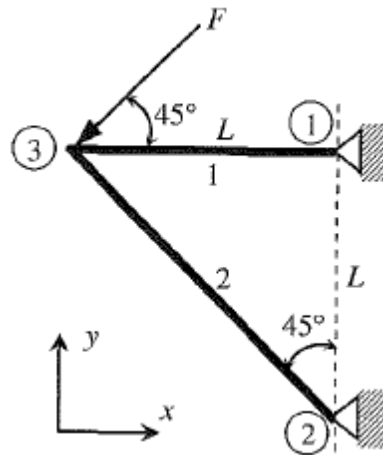

Figure P2.3
3. The plane truss shown in the **Figure P2.3** has two elements and three nodes. What are nodal displacements and the element forces? Assume $E = 10^{11}$ Pa, $A = 10^{-4} \text{ m}^2$, $L = 1$ m, $F = 14,142$ N.